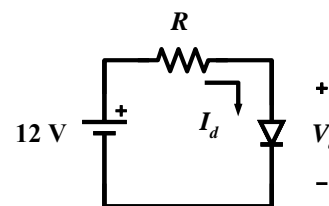

Figure 1-7 – Simple diode bias circuit
- For the circuit in Figure 1-7, determine the value of resistance that will give a diode current of  $\sim 10\text{mA}$ , assuming a diode forward drop of  $0.7\text{V}$ . Choose the nearest value resistor you can find and verify your design for both the 1N4148 and 1N4005.